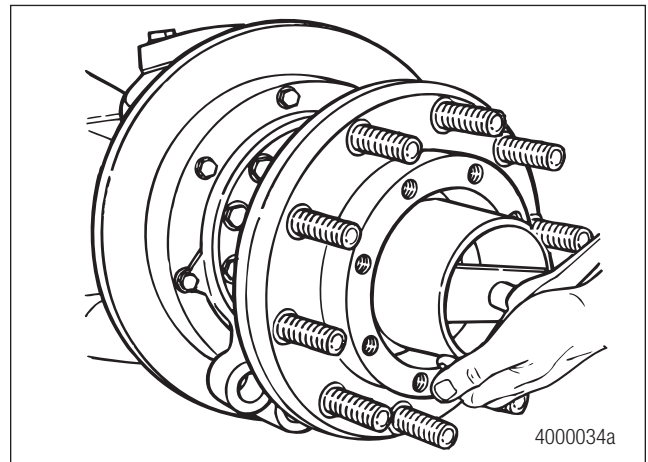

Figure 7.23
1. Install the adjusting nut. Use a torque wrench to tighten the adjusting nut to 100 lb-ft (136 Nm). Figure 7.23.